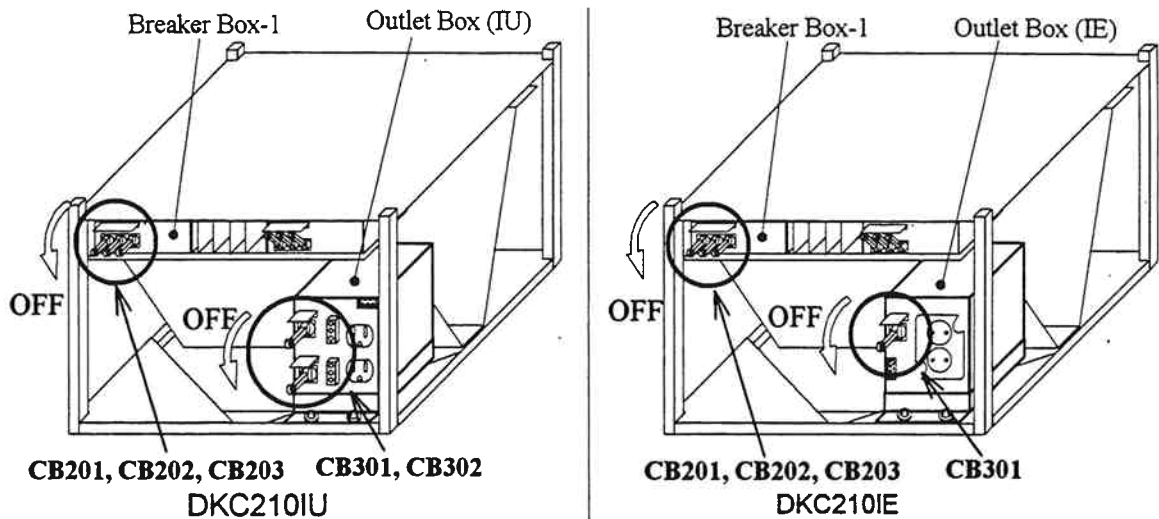

Fig. 1 Circuit Breakers to be Turned Off When Replacing Outlet Box.
- a. Turn off the circuit breakers in the Disk Controller. Refer to Table 1 and Fig. 1